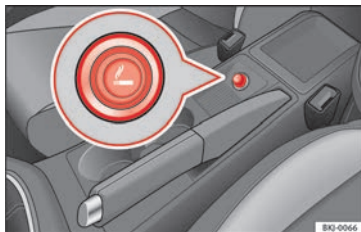

Fig. 165 Lighter.
- Press on the cigarette lighter »» Fig. 165 to activate it »» ⚠.